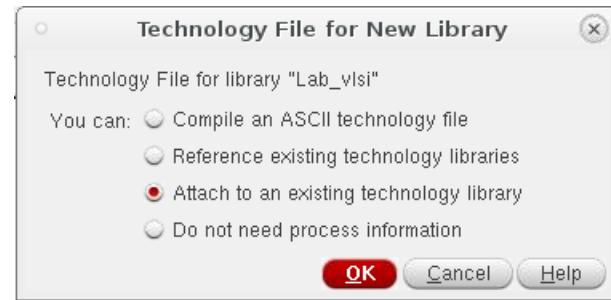

Figure 3: Technology file choice for new library.
2. Now, you first need to create a new library for your designs (referred as your design library). Create a new library in Virtuoso® (*Library Manager -> File -> New -> Library...*). After choosing the location of your library (it is recommended to put it in the `/libs` directory inside your current working directory to ensure a better organization), a pop-up window appears, as shown in Fig 3.